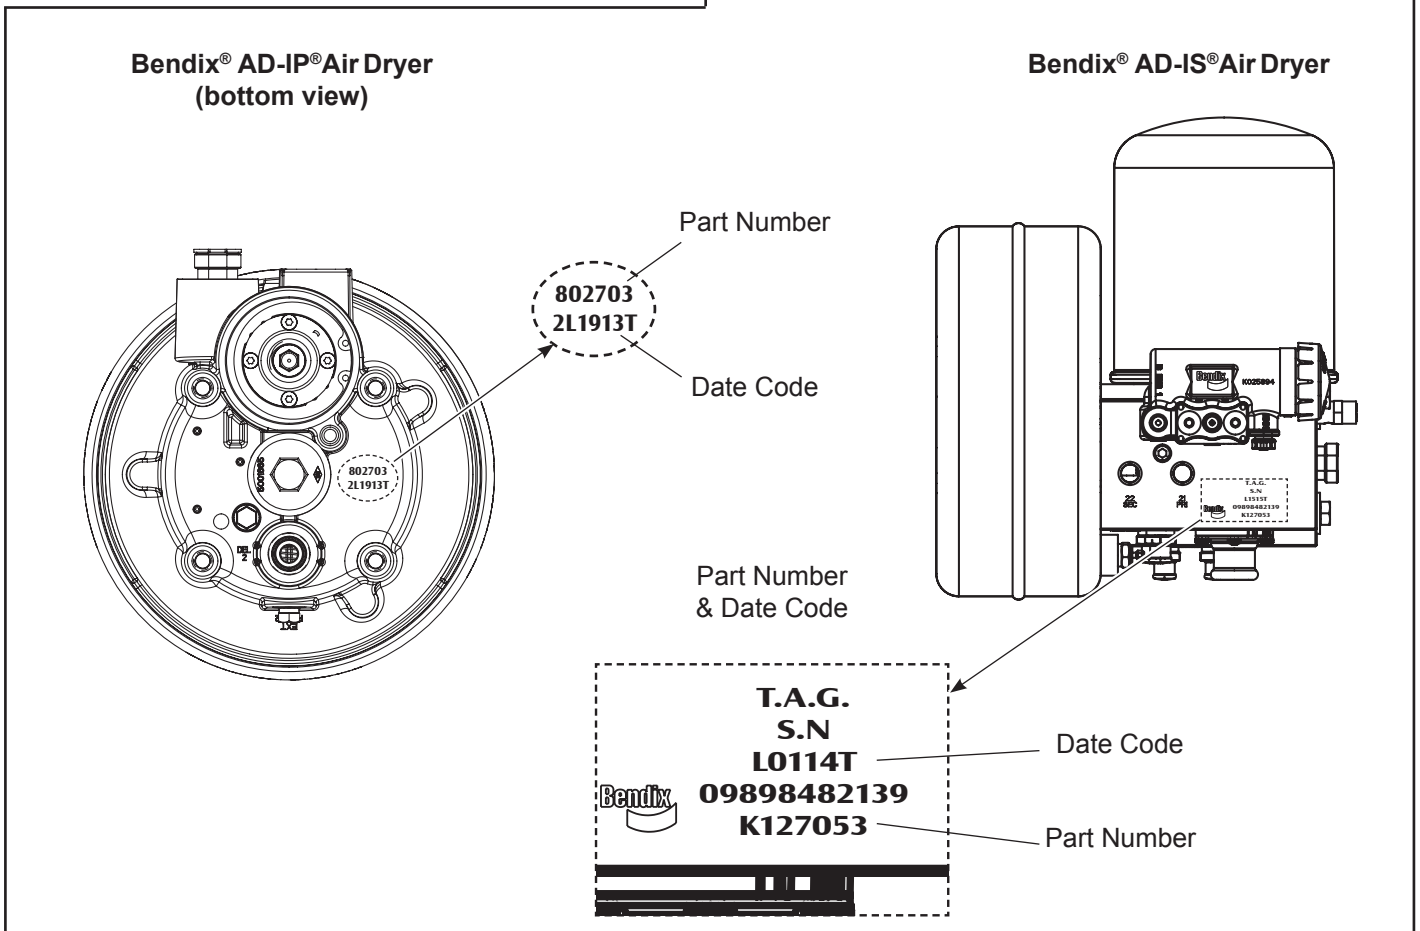

Figure 5 – Identifying the Air Dryer Date of Manufacture
Refer to Figure 5.
Each air dryer has a date code that identifies the date and location of manufacture. Before servicing the Bendix® AD-IS® or AD-IP® air dryer the date of manufacture must be identified to ensure the air dryer is serviced correctly. Refer to Figure 5.
1. Locate the date code of the air dryer as shown in Figure 5. Remove the paint or coating if necessary to read the code.